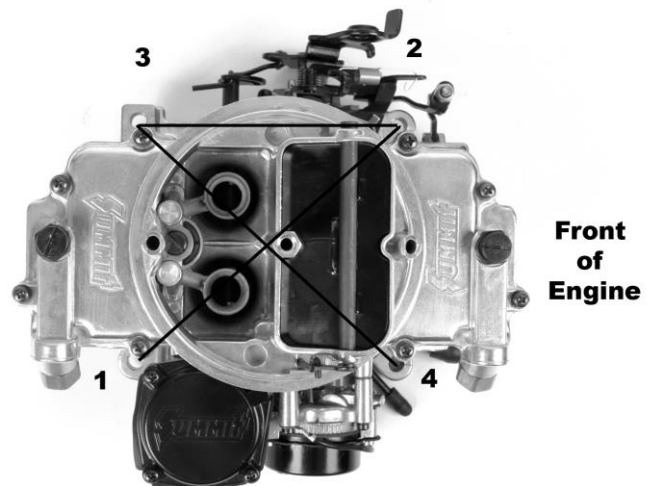

Figure 1—Carburetor torque sequence
3. Place the carburetor on top of the flange gasket on the manifold. Install the hold down nuts and snug down progressively in a “crisscross” pattern (**60-80 in./lbs.**), as shown in Figure 1.